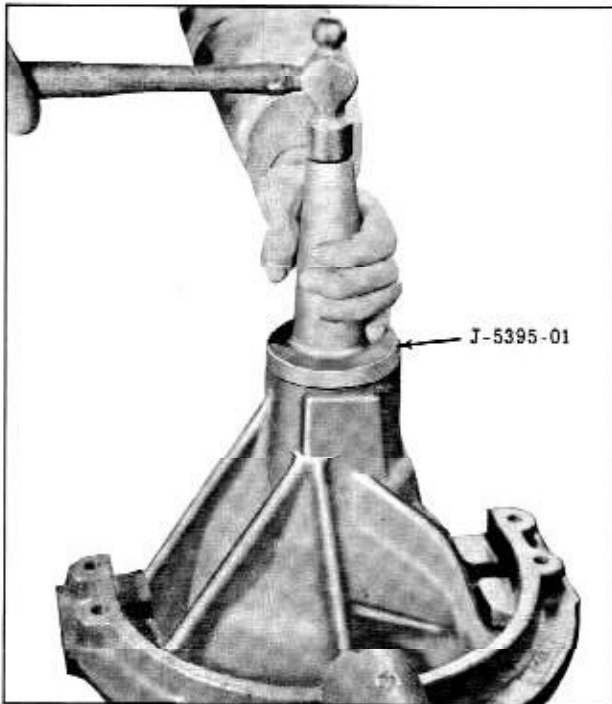

Fig. 6-33 Installing Pinion Oil Seal
8. Just start the seal into carrier by tapping lightly and then finish driving the seal in place with Pinion Seal Installer J-5395-01. (Fig. 6-33)